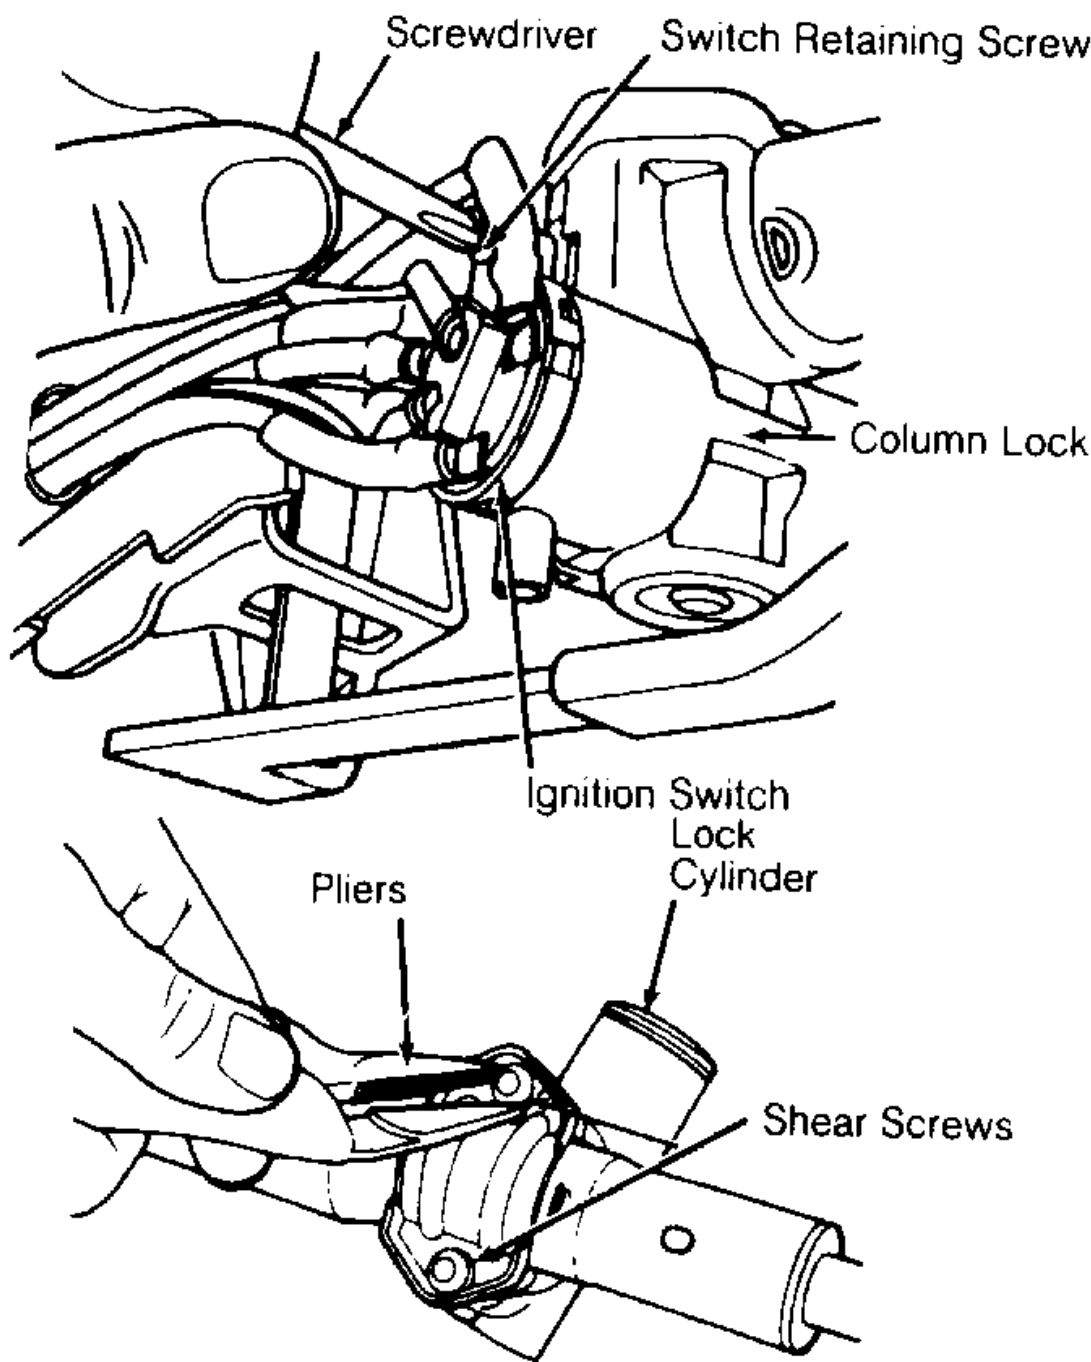

Fig. 2: Ignition Switch & Lock Mechanism
- 3. Remove column lock shield. Disconnect switch harness connector. Remove single retaining screw. Remove ignition switch. See Fig. 2 . Reverse removal procedures to complete installation.
- 2. Remove steering column attaching nuts and lower the steering column support bracket. Remove single retaining screw from top side of ignition switch. Remove ignition switch wiring harness and ignition switch. See Fig. 2 .
and disconnect cable from lock housing. Using slim-nose locking pliers, grip and remove round headed shear screws securing column lock housing and cap to column jacket. See Fig. 2 .